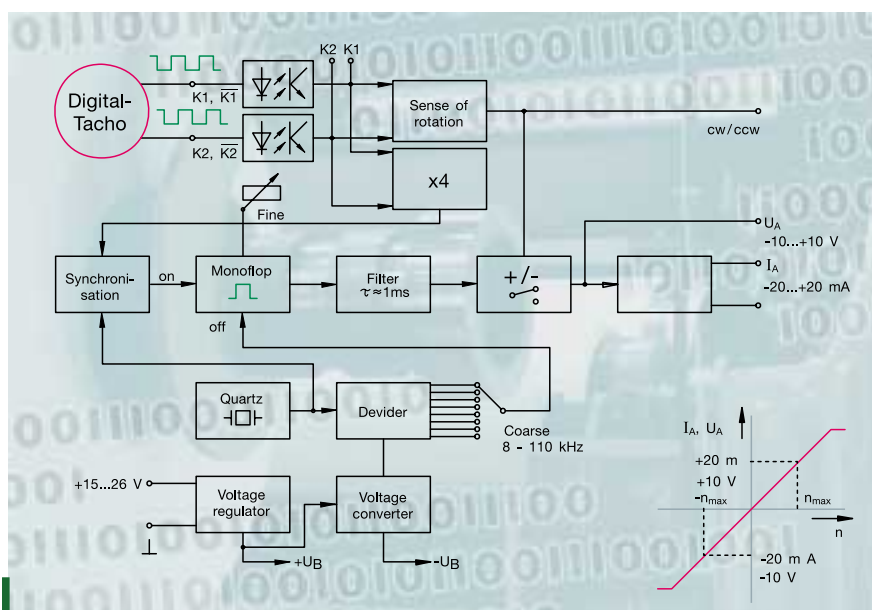

Figure 31: The bipolar f/A converter HEAG 121 P with opto-coupler input generates an analogue voltage relative to the incremental signal frequency.
- The **Bipolar f/A Converter HEAG 121 P** with opto-coupler inputs for electrical isolation, converts squarewave signals with a frequency  $f$  into a bipolar (for direction indication) **analogue value**  $U_A(f)$  or  $I_A(f)$ . The inputs can be selected for the signal level TTL (+5 V) or HTL (+9 V ... 30 V) and for the number of channels  $K1, K2$  or  $K1, \bar{K}1, K2, \bar{K}2$ . The ripple of the output voltage is  $\leq 1\%$  for a signal frequency  $f \geq 200$  Hz. The linearity tolerance of the quartz-stabilized converter is  $\leq 0.02\%$  (➔ Figure 31).